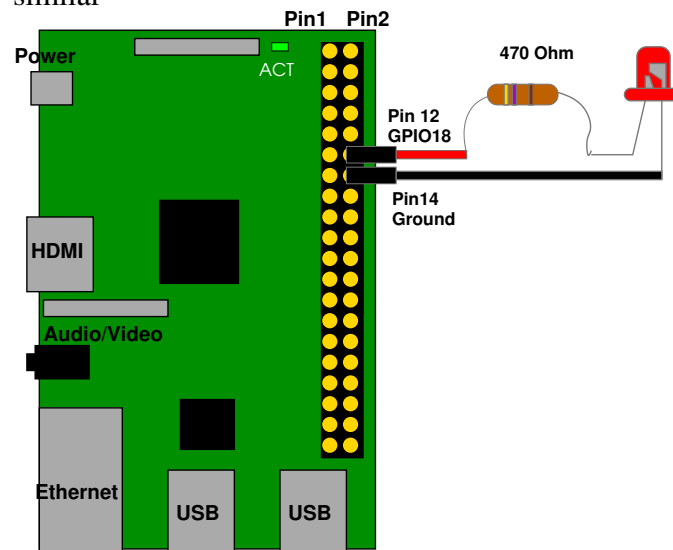

Figure 1: Raspberry Pi Layout
- The easiest way to do this is hook a 470 Ω resistor and LED to GPIO18 (Pin12) and Ground (Pin14) as shown in Figure 1.